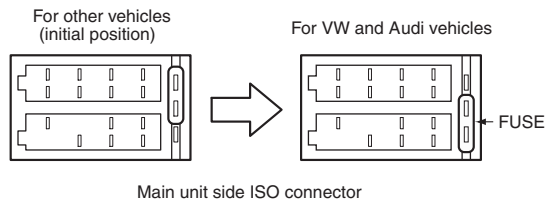

Figure 1
1. For VW and Audi vehicles, change the position of fuse installation as shown on the diagram.(Figure 1)